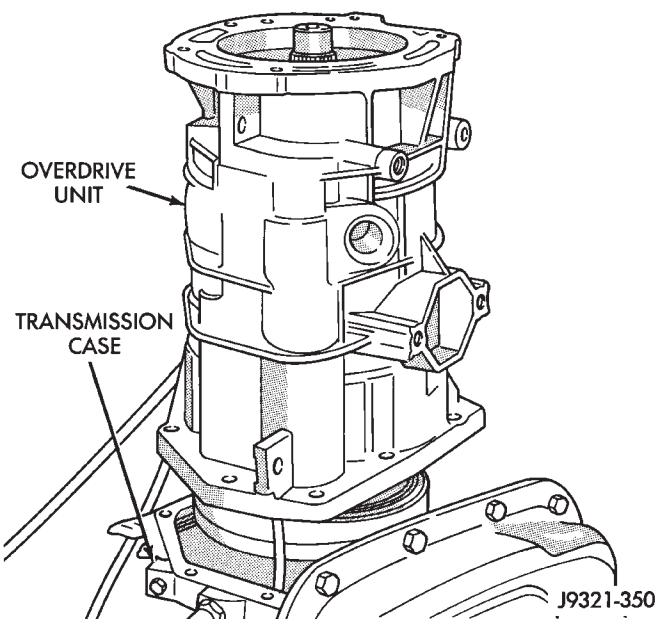

Fig. 3 Overdrive Unit Removal
(7) Lift overdrive unit up and off transmission intermediate shaft (Fig. 3).